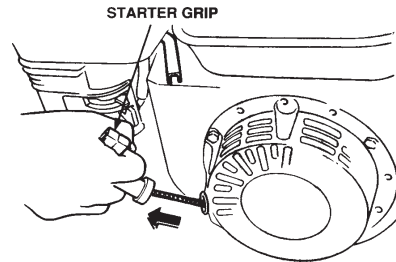

Figure 13. Starter Grip
5. Grasp the starter grip (Figure 13) and slowly pull it out. The resistance becomes the hardest at a certain position, corresponding to the compression point. Pull the starter grip briskly and smoothly for starting.